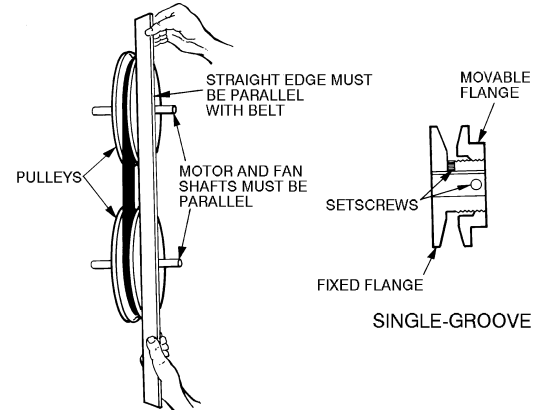

Fig. 44 — Evaporator-Fan Pulley Adjustment
3. Loosen movable pulley flange setscrew (see Fig. 44).
3. Adjust bolt and nut on mounting plate to secure motor in fixed position. See Fig. 44.